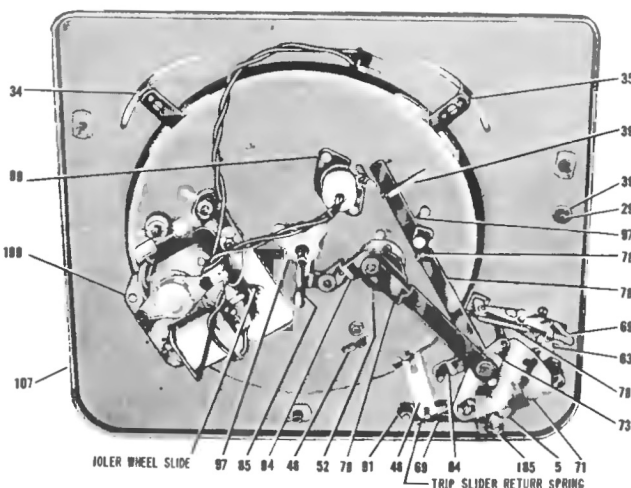

Figure 6. Bottom View, Changer Out of Cycle.
The 78 RPM drive shaft is part of the motor armature. The 33 RPM drive shaft (51) and the 45 RPM drive shaft (52) are moved in and out of position mechanically by the speed selector link (34). See figure 6.
As the drive gear begins to rotate, the drive eccentric (82) also rotates, since both parts are mounted on the same shaft. See figure 6. As the drive eccentric rotates clockwise, the drive link (75) pivots the control plate (71). As the control plate pivots, the inclined cut-out moves from beneath the tone arm lift rod (65), raising the tone arm from the record. The safety arm (73) travels with the control plate (71). The stud on the safety arm engages the tone arm control lever (64) and moves the tone arm away from the centerpost.